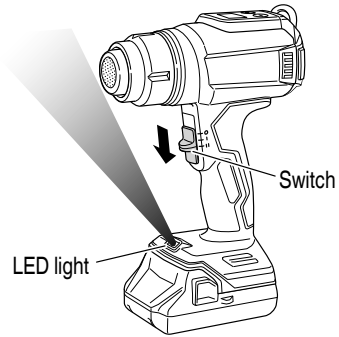

Fig. 11
3. How to use the LED light (Fig. 11)